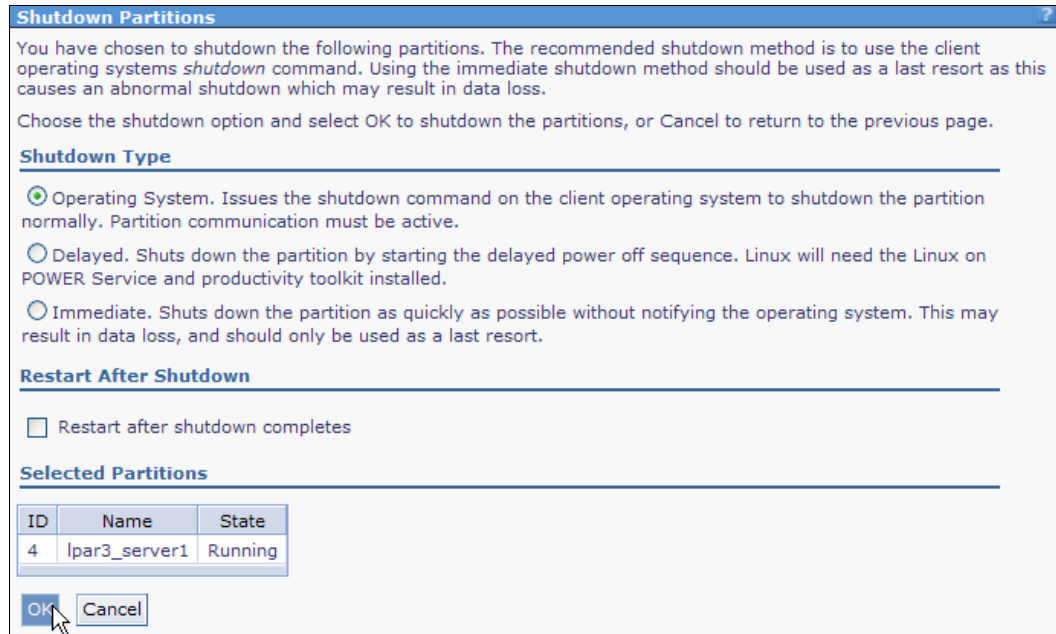

Figure 4-51 Shutdown Partitions: new options
3. From the Tasks menu, click **Shutdown**. The Shutdown Partitions panel opens (Figure 4-51).